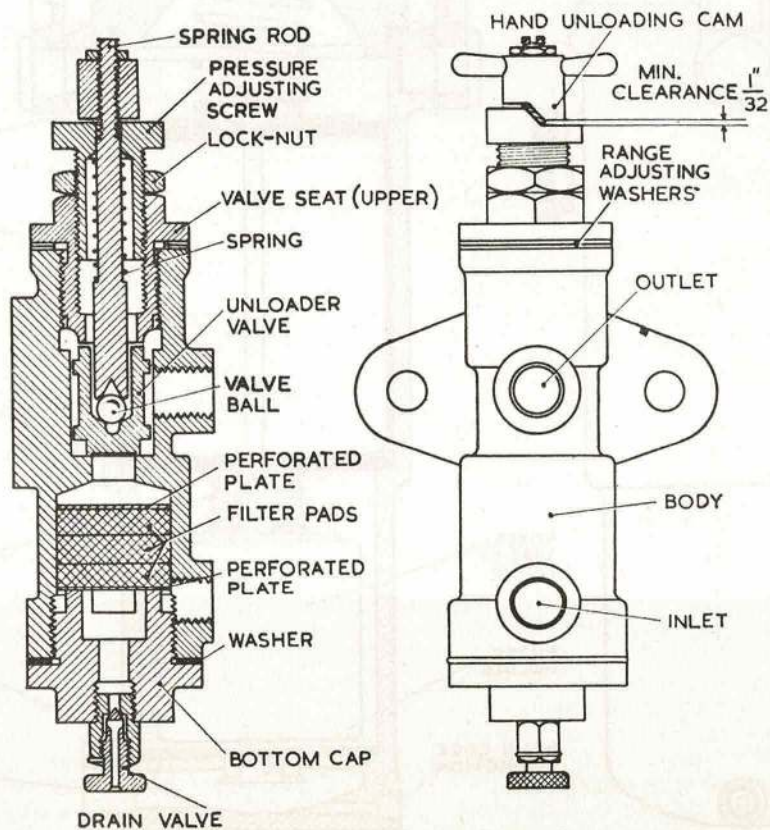

Fig. 11. AUTOMATIC UNLOADER
28. Automatic Unloader. This component (Fig. 11) is used to maintain an approximately constant pressure in the receivers by causing the compressor to cease delivering air when the required pressure has been reached. The range of the unloader, i.e. the